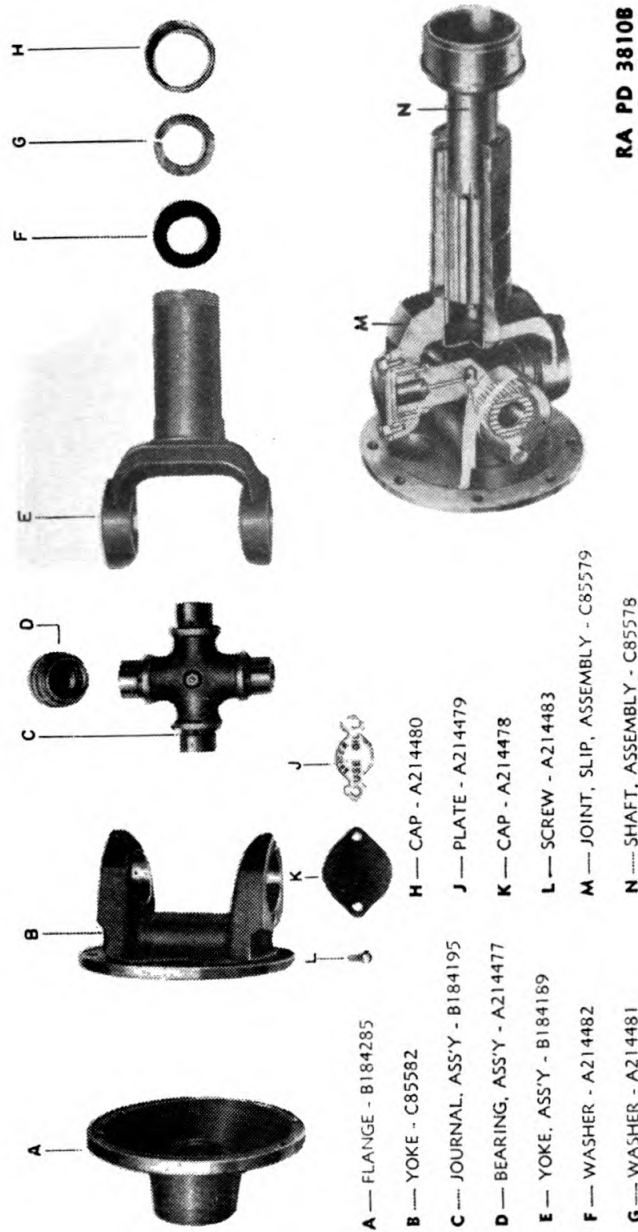

FIGURE 74.—Rear axle propeller shaft, exploded.
(4) Disassemble opposite universal joint. Follow steps (1) through (3) above.
(5) Remove slip joint. Unscrew dust cap (A160305) and pull slip joint (C85575) from shaft splines.
(6) Remove dust cap—screw driver. Lift cork washer (A160310) and split steel washer (A160309) out of cap, and slip cap over shaft splines (fig. 74).
*b. Rear axle (jackshaft) propeller shaft (fig. 74).*—Tools: 1/2-inch socket wrench, brass drift, hammer, screw driver.
(1) Remove bearing caps—screw driver, 1/2-inch socket wrench. Bend down locking tabs on lock plate (A214479) with a screw driver. Remove two cap screws (A214483) holding each bearing cap (A214478) and lock plate, and remove plates and caps.
(2) Disassemble remainder of shaft. Follow steps (2) through (6) in *a* above.